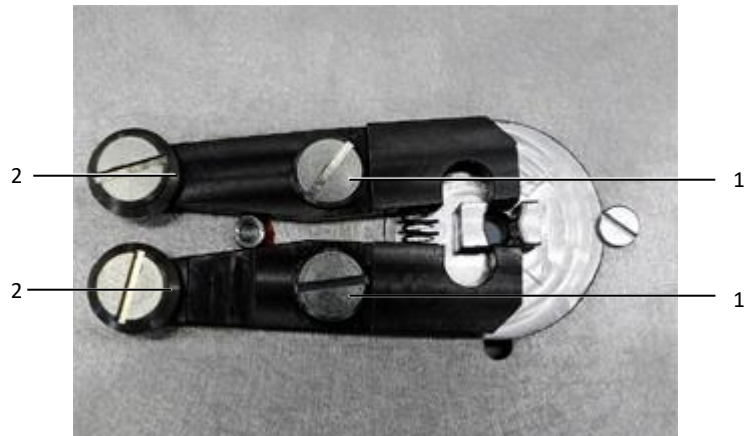

Fig. 10: Conductor holding tongs
- Oil the conductor holding tongs at the pivot points (fig. 10, item 1) and at the contact surfaces (fig. 10, item 2) of the rollers.